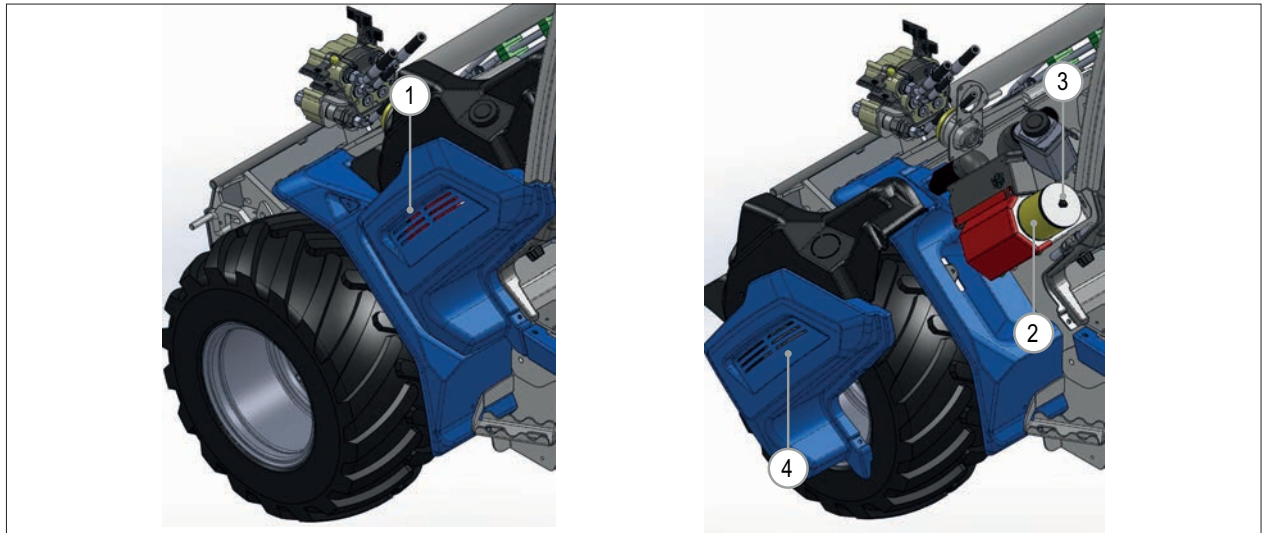

FIG. 48
- 2) Remove the left panel (FIG. 48 - Rif. 1) by loosening the screws that secure it to the frame.
- 3) Remove the air filter (FIG. 48 - Rif. 2) by loosening the screw that secure it (FIG. 48 - Rif. 3).
- 6) Reinstall the left panel (FIG. 48 - Rif. 4) and secure it with the screws.